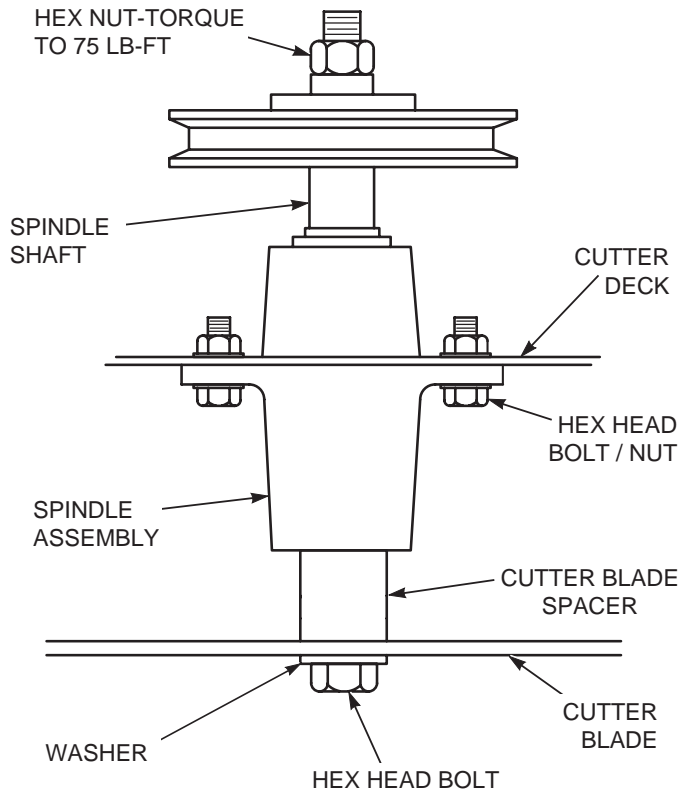

Figure 7-8. Blade Replacement
3. Secure the cutter blades to prevent them from rotating, (use the optional Blade Buddy tool P/N 9212, to assist in securing the cutter blades), remove the nut from the blade attaching bolt. Remove the cutter blade, bolt and spacer from the spindle shaft. See Figure 7-8.
- Install the hex nut to the blade bolt at the top of the cutter spindle. Secure the blades from rotating and torque to 75 lb-ft. See Figure 7-8.